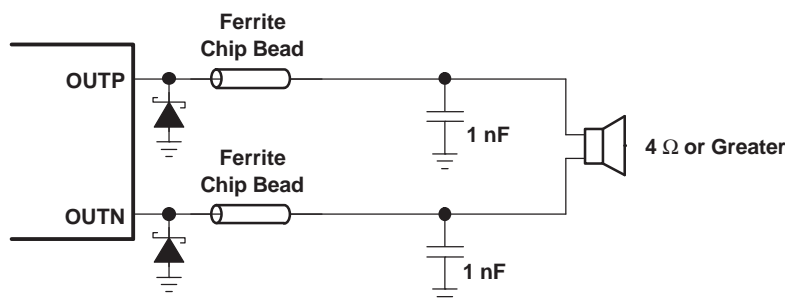
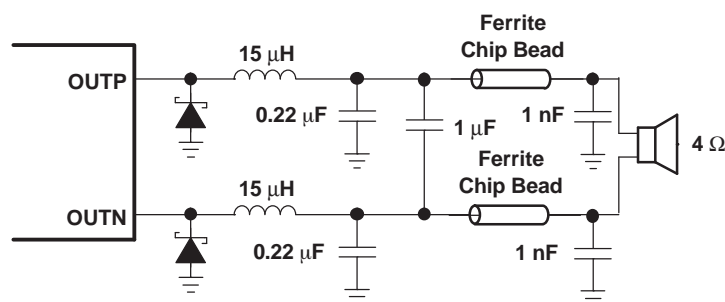
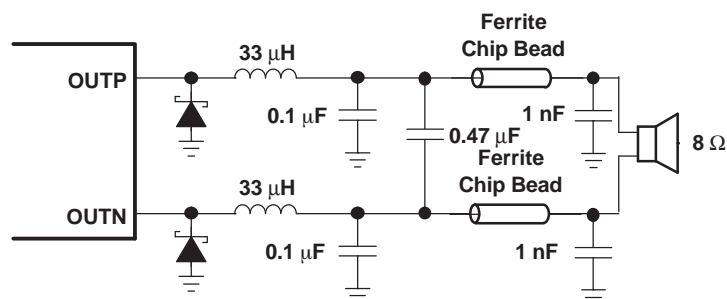

Figure 34. Typical Ferrite Chip Bead Filter (Chip Bead Example: Fair-Rite 2512067007Y3)
Figure 35. Typical LC Output Filter for 4-Ω Speaker, Cutoff Frequency of 27 kHz
Figure 36. Typical LC Output Filter for 8-Ω Speaker, Cutoff Frequency of 27 kHz
A ferrite bead filter (shown in Figure 34) should be used in order to pass FCC and/or CE radiated emissions specifications and if a frequency-sensitive circuit operating higher than 1 MHz is nearby. The ferrite filter reduces EMI around 1 MHz and higher (FCC and CE only test radiated emissions greater than 30 MHz). When selecting a ferrite bead, choose one with high impedance at high frequencies, but very low impedance at low frequencies.
Use an additional LC output filter if there are low frequency (<1 MHz) EMI sensitive circuits and/or there are long wires (greater than 11 inches) from the amplifier to the speaker, as shown in Figure 35 and Figure 36.
- Output filter—The ferrite filter (Figure 34) should be placed as close to the output terminals (pins 10, 11, 14, and 15) as possible for the best EMI performance. The LC filter (Figure 35 and Figure 36) should be placed close to the ferrite filter. The capacitors used in both the ferrite and LC filters should be grounded to power ground.